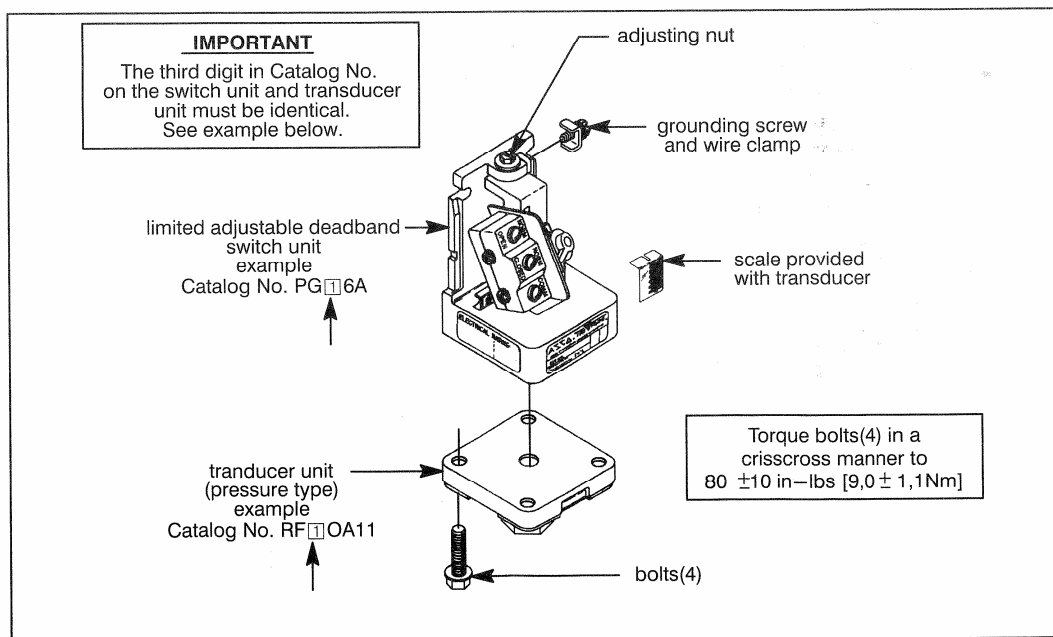

Figure 6. Open-Frame Switch Unit and Transducer Unit to be assembled.
Nameplates are located on switch (or switch cover) and on the bottom of the transducer. Check to be sure the third digit in each number is the same. If not, the unit should not be used (Refer to Figure 6).
**Assembly Of Switch And Transducer Units** (Refer to Figure 6)
Pay careful attention to exploded view provided in Figure 6 for assembly of switch unit and transducer unit. Proceed in the following manner:
When facing switch with the switch in the upright position, the adjusting nut on the top adjusts the signal setting (set point increasing). The knob in the front center of the switch adjusts the deadband (set point decreasing) refer to Figure 6. To make adjustments, a 1/4" wrench or screwdriver is required. A pressure or temperature gage (within suitable range) is also required.